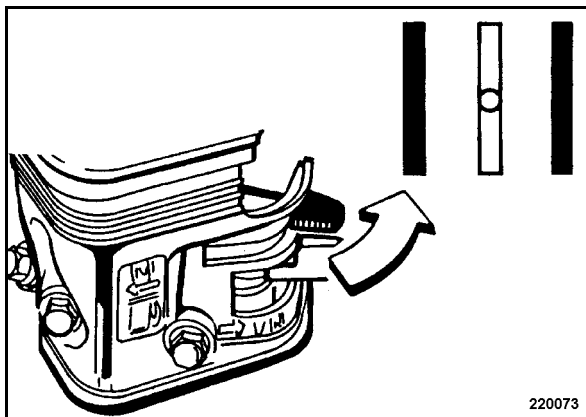

Fig. 21
- As the engine warms up open the lever (Fig. 21) of the choke bit by bit.